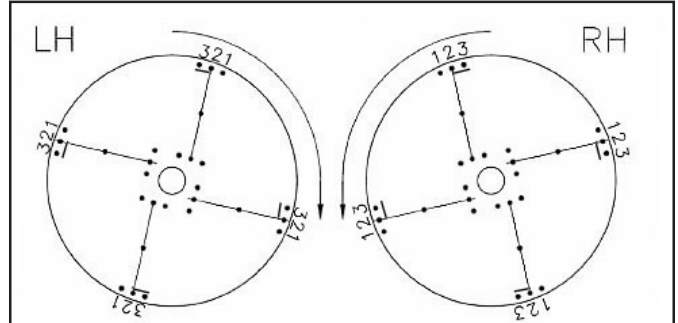

Figure 3b - Fin Locations for 24" Bottom
- Figure 3b - 24" wide bottom: All fins installed in position 2.